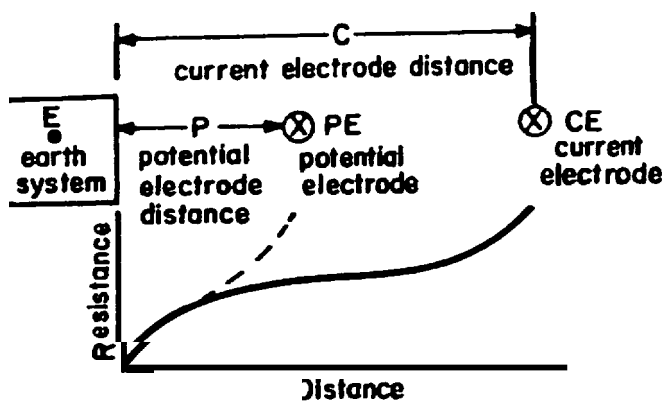

Figure 14-9. Fall-of-potential method graph.
(3) *Fall-of-potential method.* The fall-of-potential method is probably the most widely used and accepted of all methods available. It can be used most practically on small and medium sized systems. A ground resistance test set is used. Measure the earth resistance of the earth system (E) (fig 14-9). In this method, greater pin spacing is required for testing ground grids and multiple rod installations than for single rod testing. To accomplish this, current is supplied between the current electrode (CE) and the system E under test. A voltmeter measures the voltage drop between the potential electrode (PE) and the system. By moving the potential electrode between E and CE, various voltages will be recorded and corresponding resistance values found. When the resistance values are plotted versus distance, the earth resistance can be seen to increase as the potential electrode moves away from the system ground, but at a decreasing rate of change. This results because each new outer hemisphere of earth around the system E adds a smaller amount of resistance to the total earth resistance as previously discussed. At a point, usually